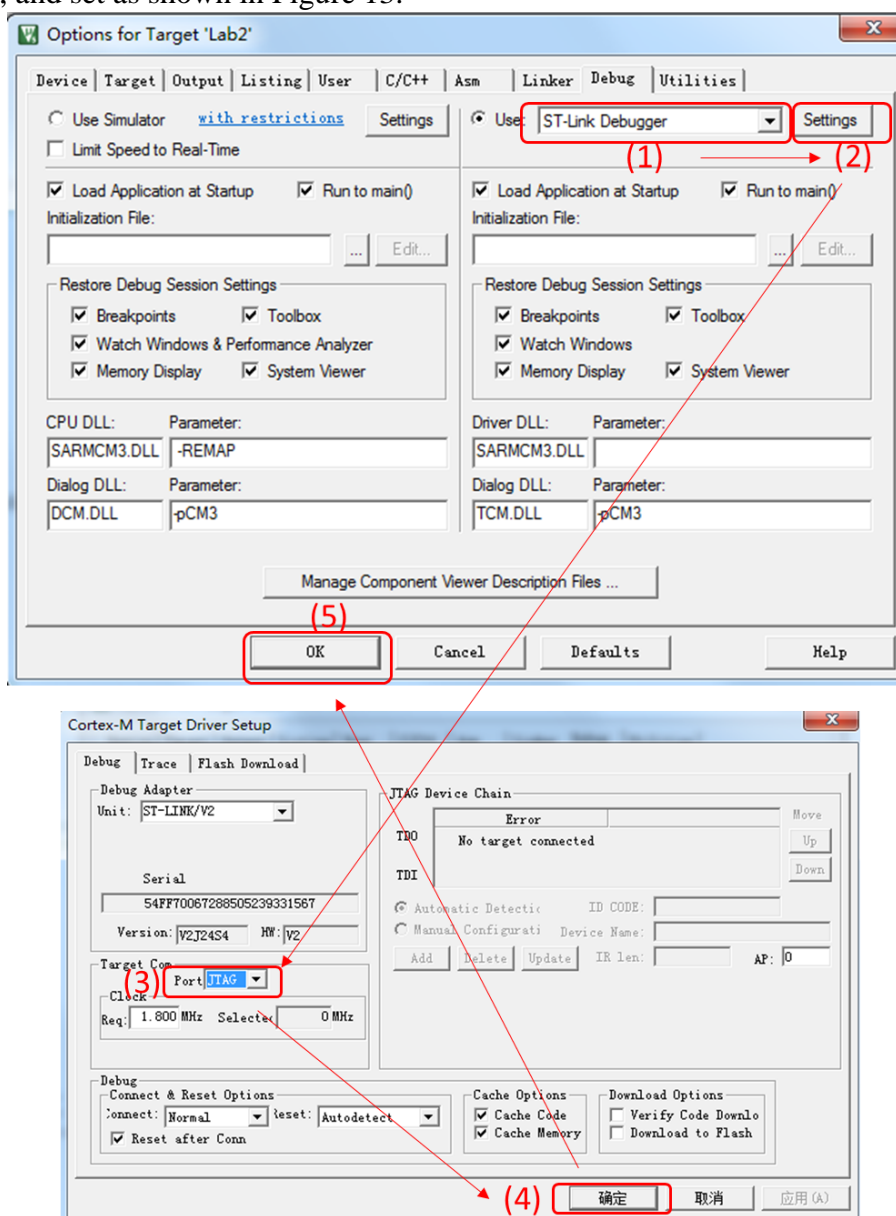

Figure 13. ST-Link setup
- Click , and set as shown in Figure 13.